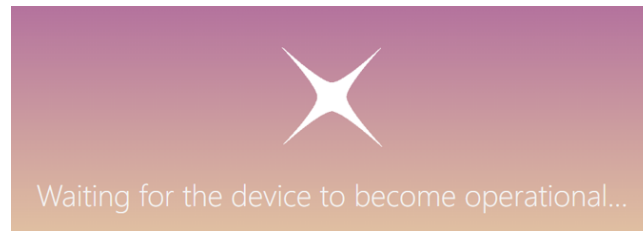

Figure 31: The PHILLharmonics loading screen
5. The loading screen pops up as shown in Figure 31 and will remain until device setup is ready. The setup process may take up to 1 minute each time PHILL™ is powered on.